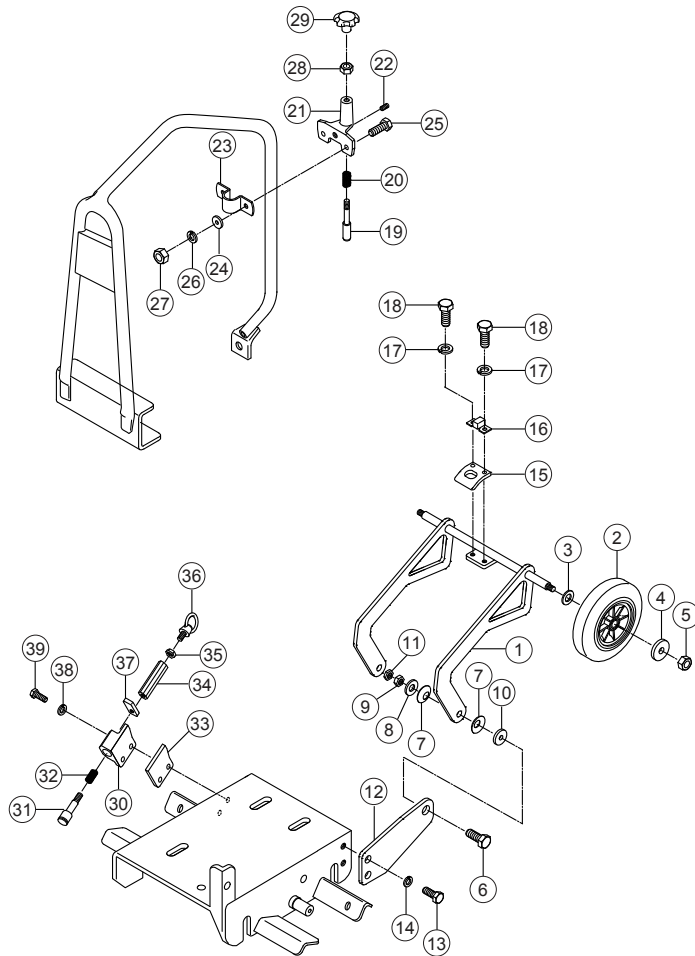
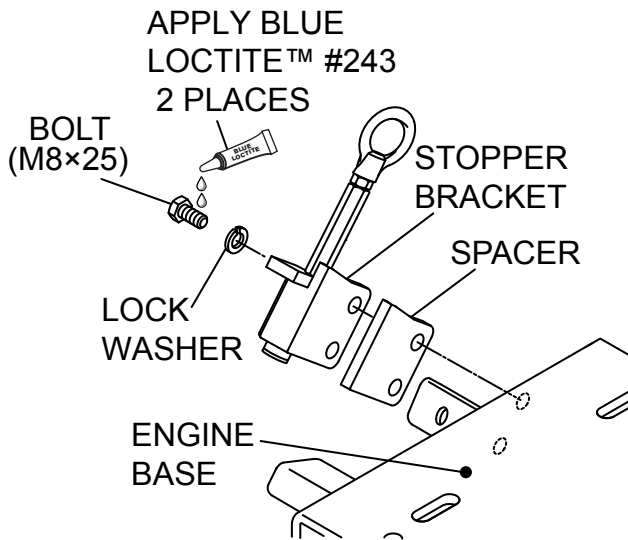

Figure 1. WHL82 Kit Parts
Figure 2. Stopper Bracket Installation
Verify that all parts are accounted for. See Figure 1 and Table 1.
1. Attach the stopper bracket (item 30, Figure 1) and spacer (item 33) to the right rear side of the engine base of the plate compactor, using the supplied bolts (item 39) and spacers (item 38) as shown in Figure 2.